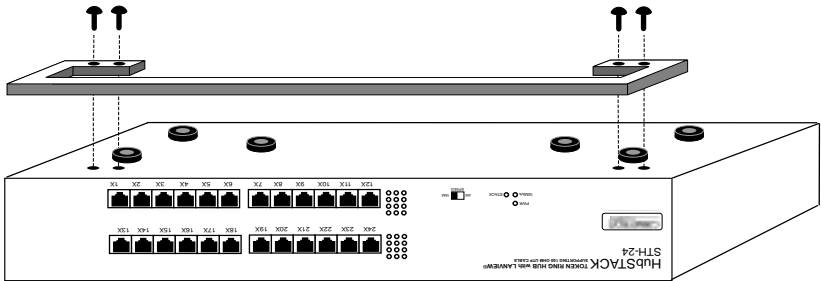

Figure 3-2. Attaching the Strain Relief
3. Attach the strain relief bracket to the bottom of the STH as shown in Figure 3-2.